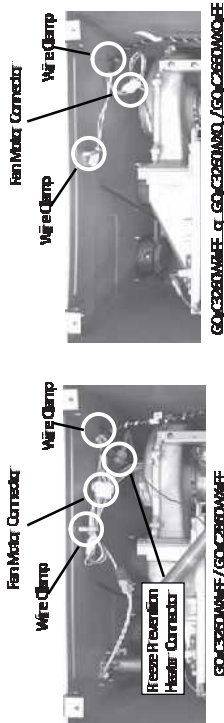

Figure 1
- 12) Connect the Fan Motor connector. (GQ-C3260WX-FF/GQ-C2860WX-FF : Connect the Freeze Prevention Heater Connector.) And tie the Wiring Harness by using the Wire Clamps (Figure 1).